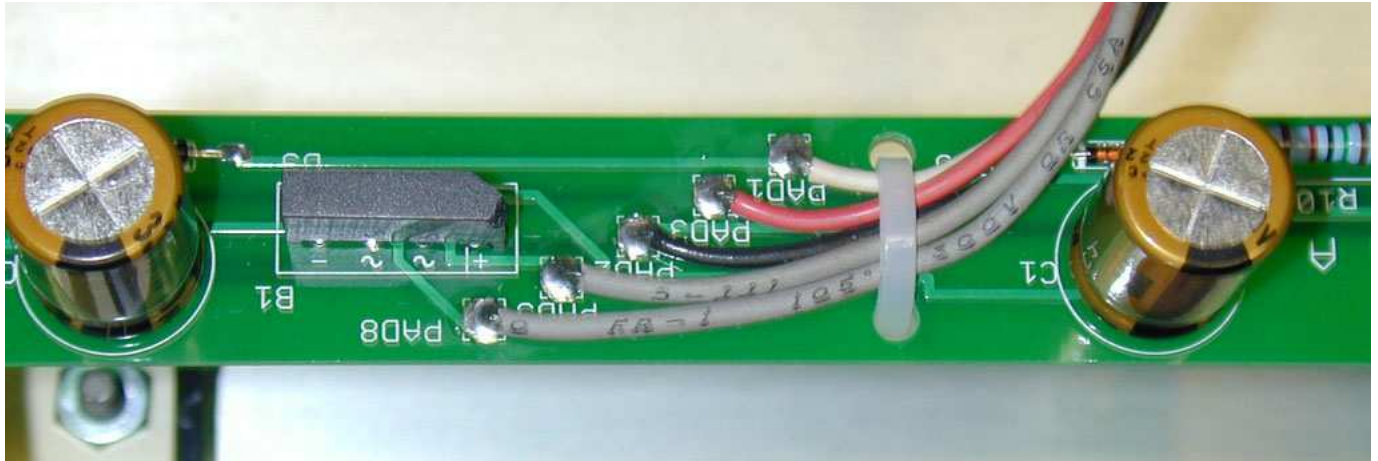

Figure 10 Amplifier lead wire attachment
- Using your soldering station, carefully solder the 5 amplifier wires to the upgrade LED Light Board at the locations labeled PAD1, PAD2, PAD3, PAD8 and PAD9 as shown below in Figure 10. The instruction illustrations show these entering from the component side (silkscreen side) of the board and being soldered on the solder side (non-silkscreen side) of the board in order to mimic the assembly of the original light board. The two gray wires get soldered first to PAD8 and PAD9. These are AC wires so polarity does not matter, both wires are equivalent and either can be soldered to PAD8 or PAD9. Next solder the white, black and red wires respectively to PAD1, PAD2 and PAD3. **DO NOT MIX UP THE WIRING ORDER OR THE AMPLIFIER WILL NOT WORK PROPERLY OR DAMAGE WILL OCCUR TO THE AMPLIFIER.**
- Using the ty-rap supplied in the kit, strain relieve the wires to the board as shown in Figure 10 to protect the solder joints. Carefully clip any excess wire length, ensuring that you do not drop any of the clippings into the amplifier circuitry.